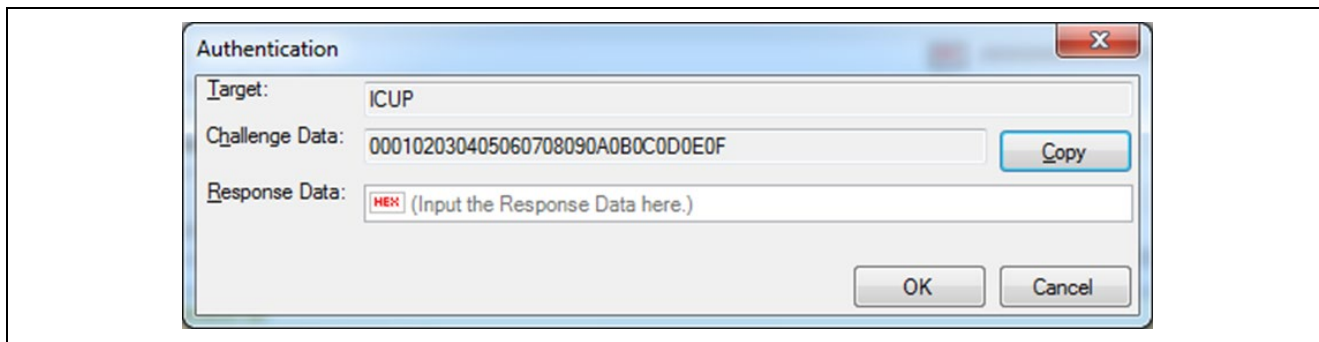

Figure 3-3 Example of Setting a Dialog Box (CS+)
Select [Connect to Debug Tool (C)] under the [Debug (D)] menu. Once the debugger has normally acquired the challenge data, the dialog box shown in Figure 3-3 is displayed. Authentication proceeds through entry of the response data and clicking on [OK]. The data are aligned from the left in the order of bits 127 to 0.